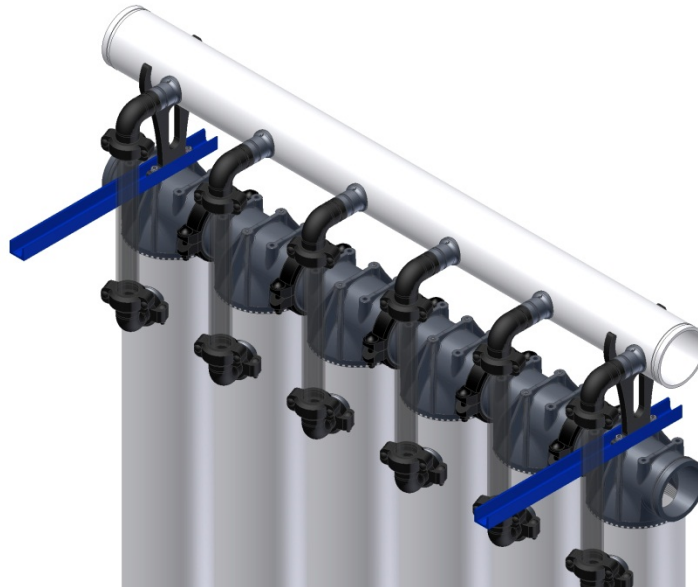

Figure 10-26: Placing the filtrate header in the filtrate header holders
8. Place a filtrate header into the filtrate header holders from above (see Figure 10-26). Make sure that the grooved pipe ends of the filtrate headers are flush with the grooved pipe ends of the feed/drain headers (T-pieces of the edge module of the sub-unit). The filtrate header must be placed in such a way that the filtrate connections of the modules and the filtrate connections on the filtrate header are properly aligned. (Note that the filtrate headers are not symmetrical; the spacing between the outer filtrate connection and the neighboring pipe end varies)